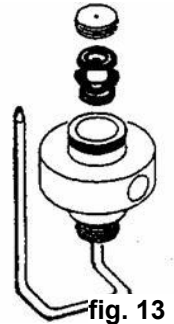

fig. 13
- Push Locking Device from the bottom into the housing and remove the Non Return Valve and Air Nozzle Disc. (fig. 13).